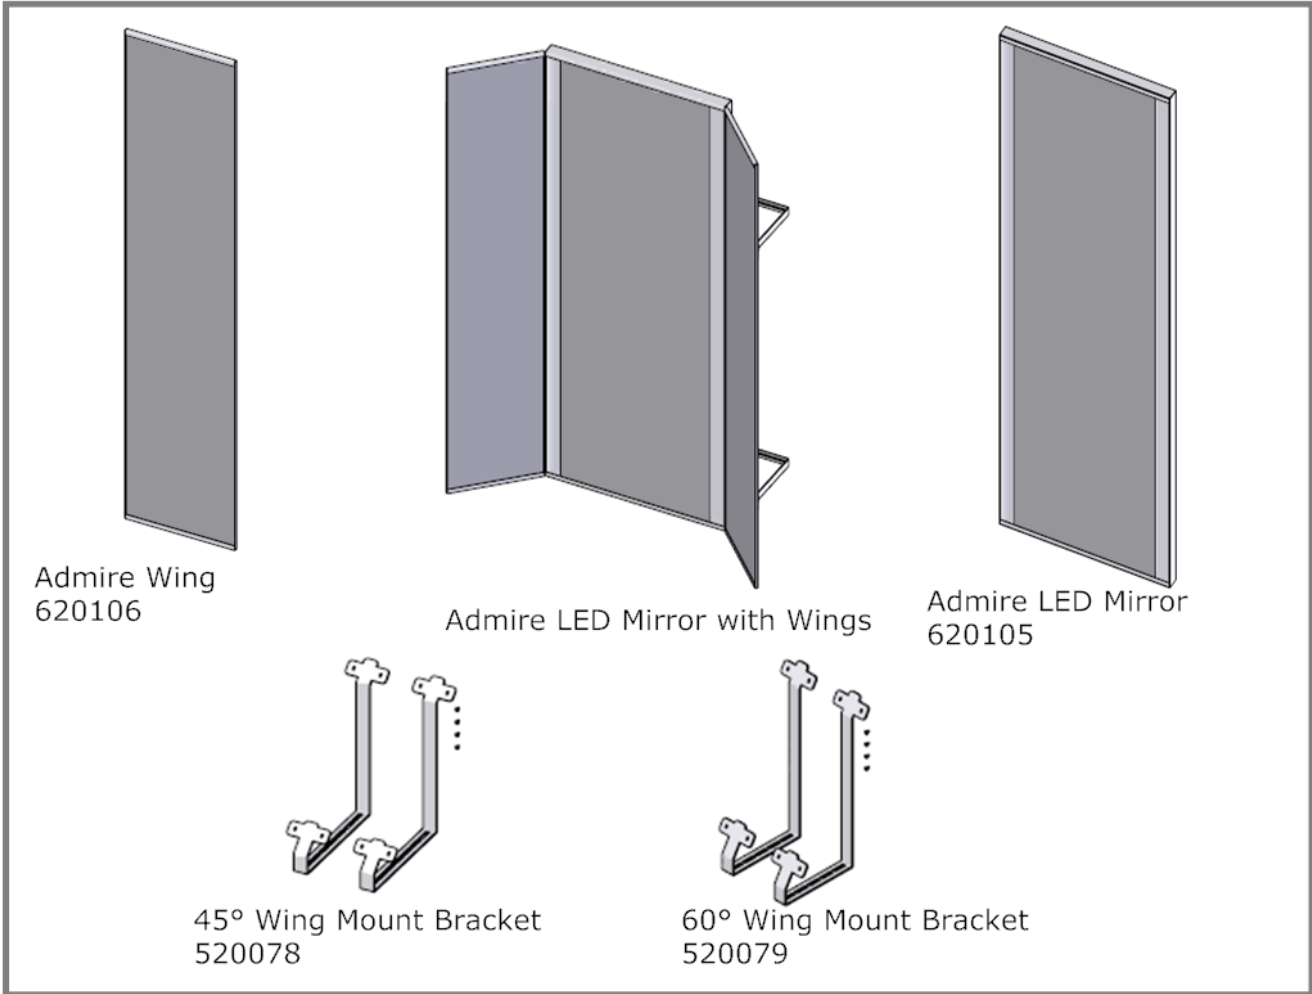

Figure 1
2. Fasten the upper and lower cleats to the wall or suitable structural location with the top edge of the part on the lines from step 1. **See Figure 1**